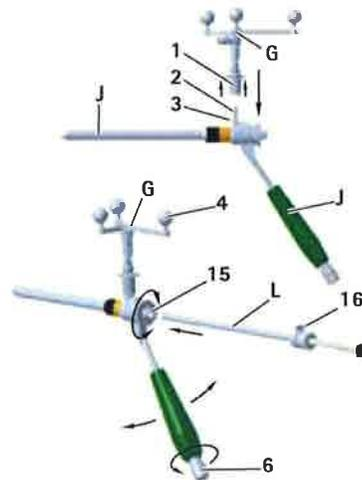

Fig. 11 Mounting the Aesculap star unit onto the S4C guide sleeve; inserting the S4C drill guide
- To ensure the camera has an unrestricted view of the reflective marker spheres, unscrew knob **6** on the S4C handle of the navigated S4C guide sleeve **J** and turn the Aesculap star unit **G** to the desired position, see Fig. 11.
- Push inner sleeve guide **L** onto the inner sleeve **15**. The inner guide sleeve engages on the inner sleeve and can still be rotated, see Fig. 11.